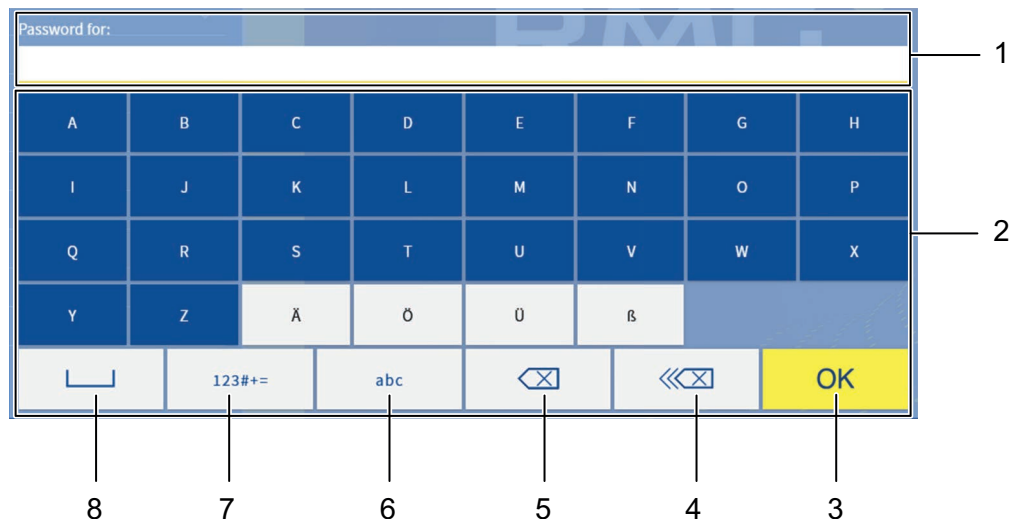

Fig. 46: Password input window
- ➔ An input window will open (cf. fig. 46)